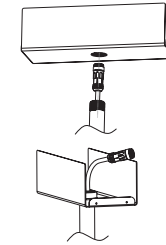

Figure 6
6. Across the DC connector through driver box, then screw it onto the aluminum pipe. (Figure 6)